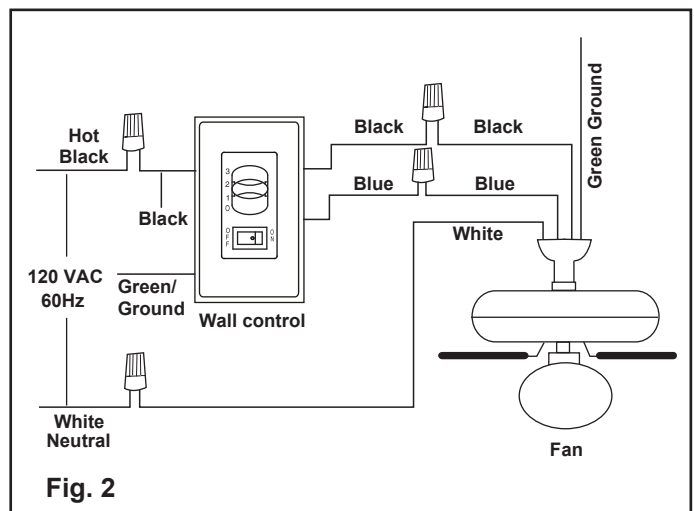

Fig. 2
- Make wire connections (Figure 2) and secure with wire nuts supplied.